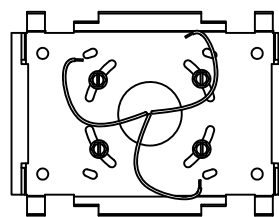

FIGURE 4
4. PLACE GASKET OVER JUNCTION BOX OPENING. SECURE LUMINAIRE MOUNTING PLATE (SUPPLIED) TO JUNCTION BOX TEMPORARILY USING JUNCTION BOX SCREWS. MAKE SURE MOUNTING PLATE'S LONGEST SIDES ARE RUNNING HORIZONTAL, NOT VERTICAL. SEE FIGURE 4.